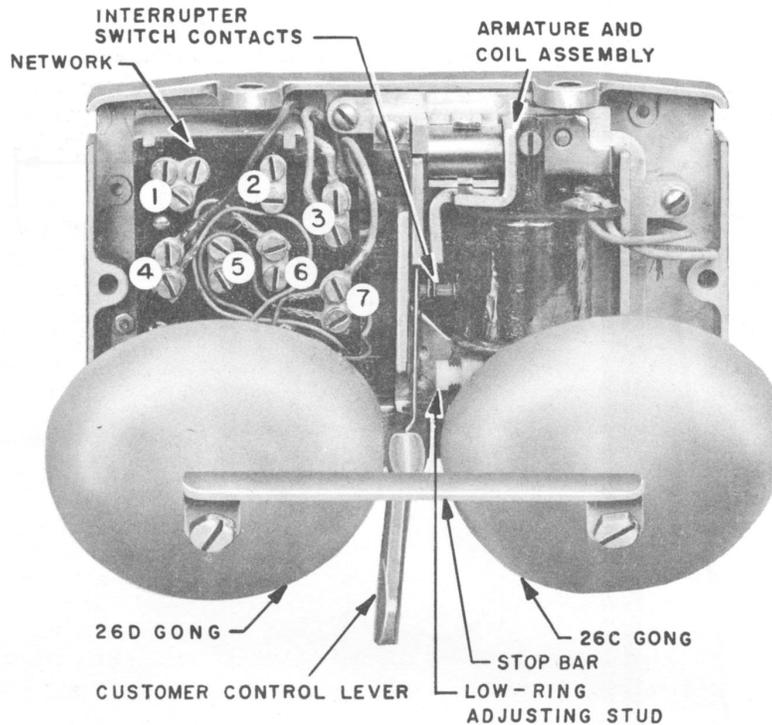

Fig. 2 - F1A Ringer
avoid changing the adjustment of the interrupter switch assembly (see Fig. 2). Keep the F1A ringer in shipping carton prior to installation and when removed from service. Handle F1A ringer by using the stop bar attached to the two gongs.
spring. The component parts, shown in Fig. 2, are:
4.07 Adjust the volume of the low ring by moving the adjusting stud (Fig. 2) right or left; use a small screwdriver in slotted end located beneath the right gong.